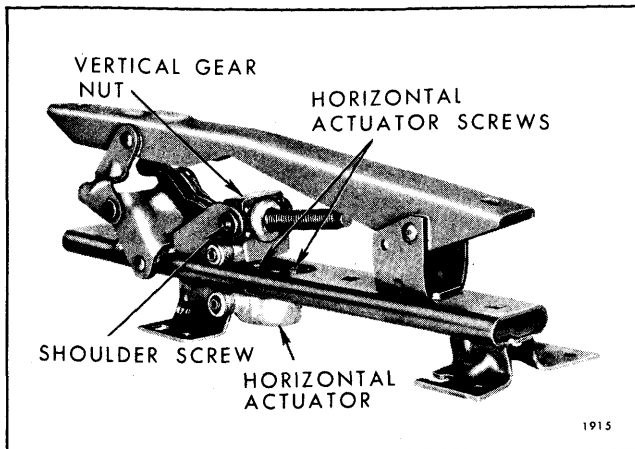

Fig. 10-13—Four-Way Seat Adjuster - "A" Styles
4. Using a clutch type screwdriver or other suitable tool, remove shoulder screws securing linkage to vertical gearnut being replaced (Fig. 10-13).
3. Remove screws securing horizontal actuator assembly to adjuster lower track; then remove actuator from adjuster assembly (Fig. 10-13).